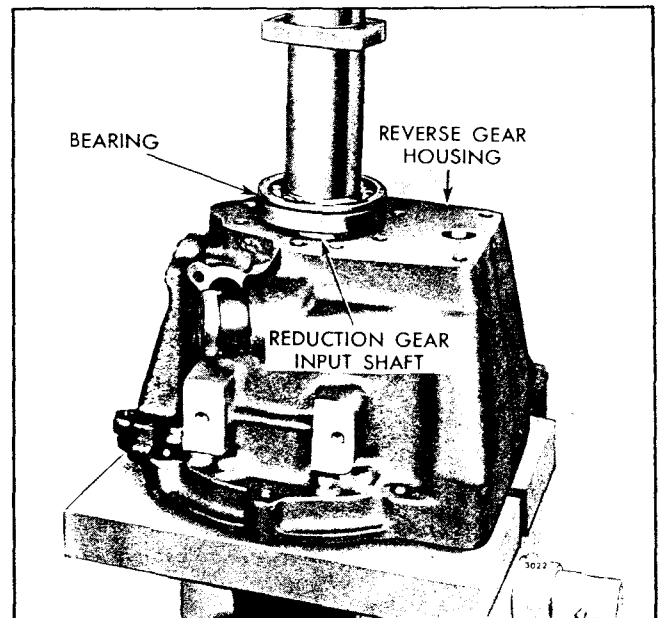

Fig. 49 - Installing Reduction Gear Input Shaft Bearing on Input Shaft and in Gear Housing (2.5:1 and 3:1 Ratios)
- e. Place the reverse gear housing, planetary gear and drive shaft assembly and the wood block on the bed of an arbor press, with the forward face of the gear housing down and the assembly resting on the wood block (Fig. 49).
- g. Place a sleeve over the end of the drive (output) shaft and rest it on the inner race of the bearing; then, place a flat steel plate on top of the sleeve and under the ram of the press as shown in Fig. 49. Then press the bearing straight down in the housing and on the shaft until it seats on the shoulder on the drive shaft.
- e. Place the reverse gear housing, planetary gear and input shaft assembly and the wood block on the bed of an arbor press, with the forward face of the gear housing down and the assembly resting on the wood block (Fig. 49).
- g. Place a sleeve over the end of the input shaft and rest it on the inner race of the bearing; then, place a flat steel plate on top of the sleeve and under the ram of the press as shown in Fig. 49. Press the bearing straight on the shaft and in the housing until it seats on the shoulder on the shaft and the snap ring groove in the shaft is fully exposed.